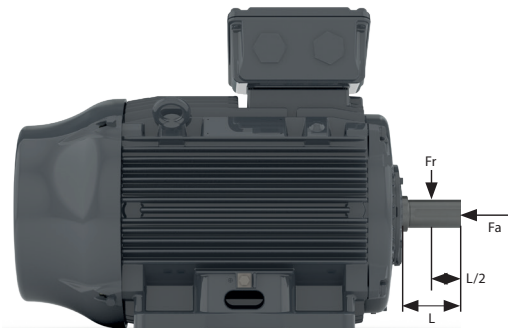

Figure 7 - Radial and axial thrust on motor shaft
The figures given in the tables below for radial thrusts take into consideration the point upon which the load is applied, either at the centre of the shaft (L/2) or at the end of the shaft (L), Figure 7.